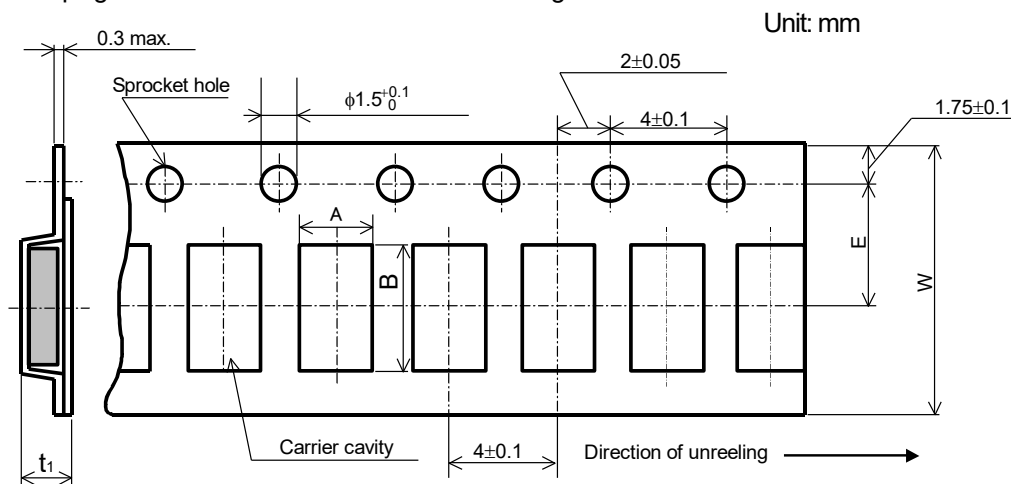

Figure-8
9.2.3 Embossed taping dimensions shall be in accordance with Figure-8 and Table-8.